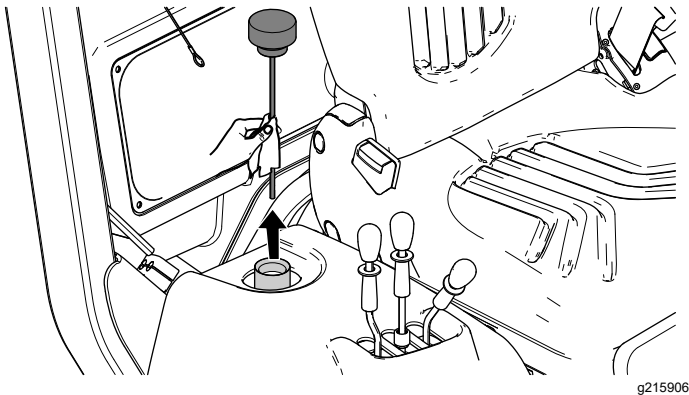

Figure 98
4. Remove the dipstick from hydraulic tank and wipe the dipstick with a clean cloth (Figure 98).